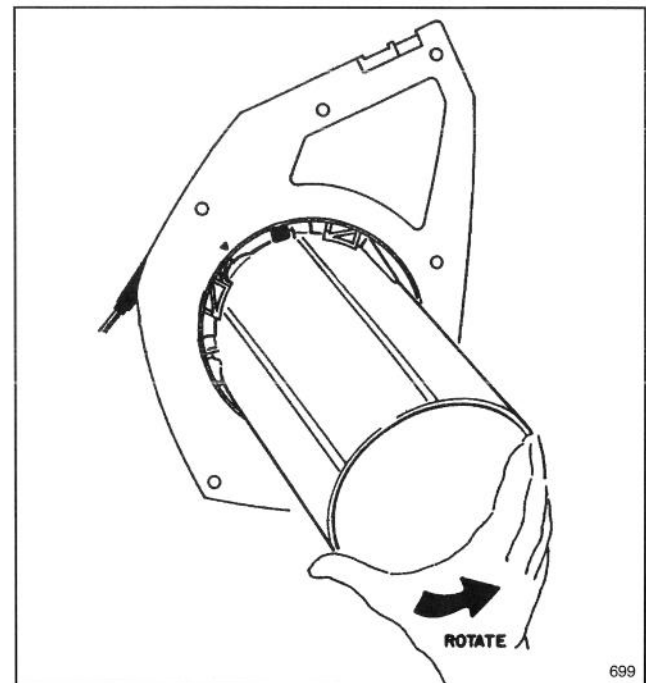

Figure 12
3. Rotate the vacuum tube counterclockwise until the tabs unlock from the blower (Fig. 12). Some extra effort may be required when you rotate the tube.